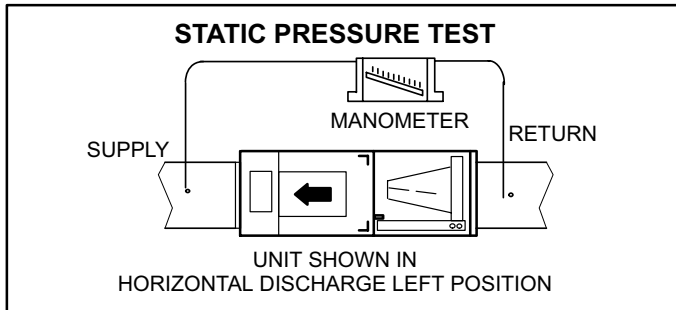

FIGURE 14
- 1- Measure tap locations as shown in figure 14.